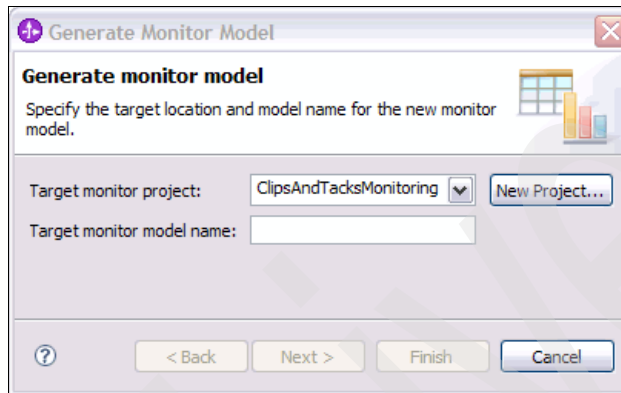

Figure 5-18 Selecting a target monitor project
2. In the Generate Monitor Model window (Figure 5-18), for Target monitor project, type ClipsAndTacksMonitoring and click **New Project**.